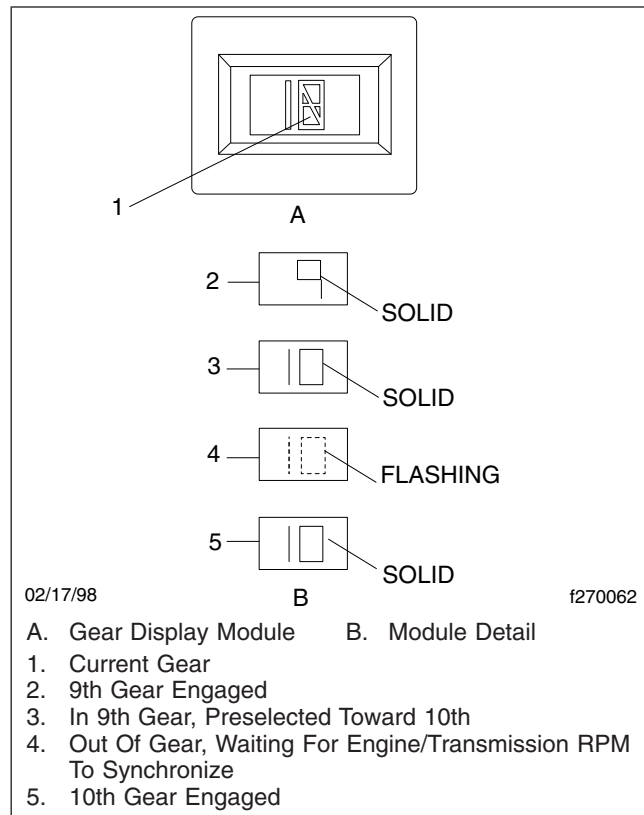

Fig. 14.8, Gear Display Module
- The gear display module mounted on the dashboard indicates the current gear position or transmission status. The display also flashes the next gear to be engaged while the transmission is in neutral during a gear change. See Fig. 14.8.